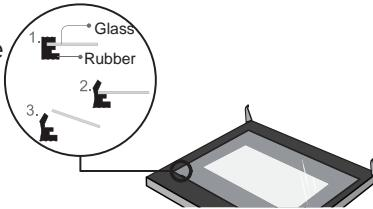

Figure6
6. After pulling out the inner glass, please take out the middle layer glass as shown in Figure 6.